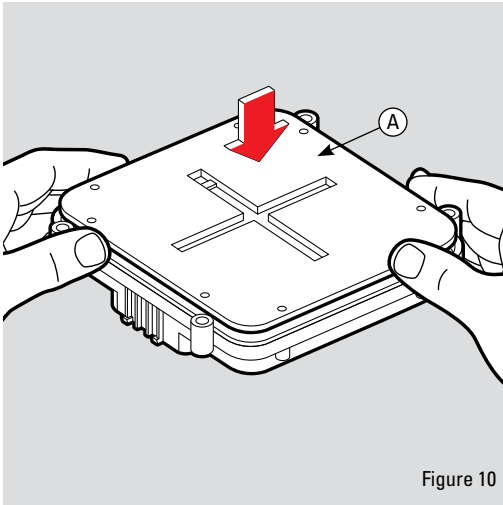

Figure 10
Keeping front cover upside down, insert the MASTERCELL™ board and back cover (A) as shown in figure 10 by aligning the input pins with the correct holes in the front cover. **DO NOT** flip over the front cover as this will cause the buttons to fall out.